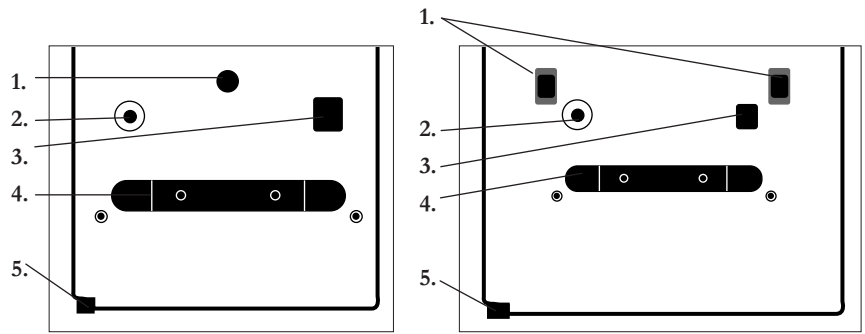

Fig. 5) Pump kit for dehumidifier series AD 200/450 (left), AD 680 (right)
There is a switch (Fig. 5, pos. 3) on the pump equipment.